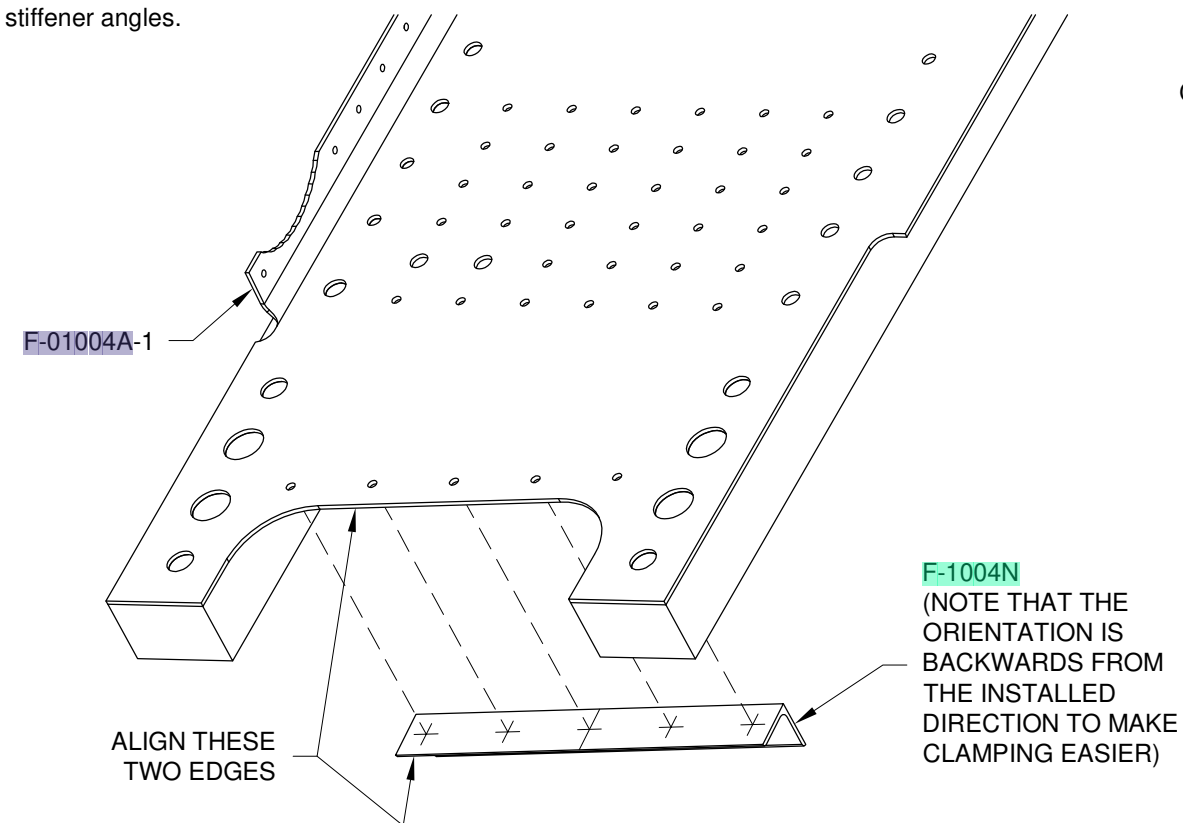

FIGURE 3: MATCH-DRILLING STIFFENER ANGLES
Step 3: Clamp a F-1004N Stiffener Angle to the F-01004A-1 Center Section Bulkhead as shown in Figure 3. Align the edge of the angle with the outboard edge of the bulkhead as shown in Figure 3. Center the centerline in the center hole of the bulkhead. Clamp both parts together.